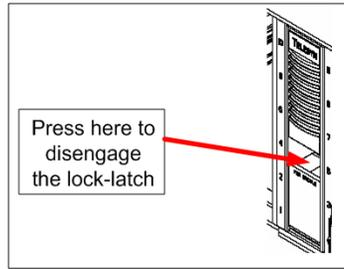
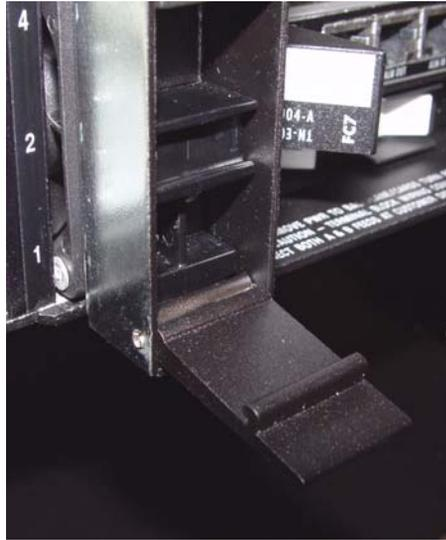

FIGURE 1-4 Front of the FM7 Showing the Lock Latch
FIGURE 1-5 FM7 with lock-latch open, partially inserted
2. Press the lock-latch in the middle of the faceplate, and ensure the bottom half of the faceplate drops. (Refer to Figure 1-4 and Figure 1-5.)